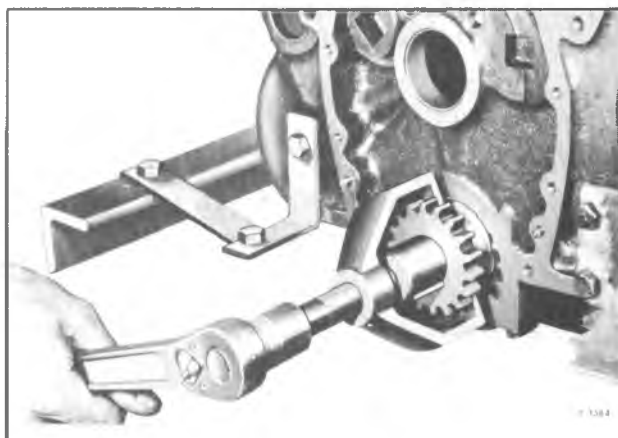

Figure 42—Removing Chain Sprocket from Crankshaft with Special Tool (Typical)
5. If crankshaft sprocket is to be replaced, remove sprocket using Tool (J-5825) on 350 engine (fig. 42), or with Tool (J-1619) on 366 and 427 engines.